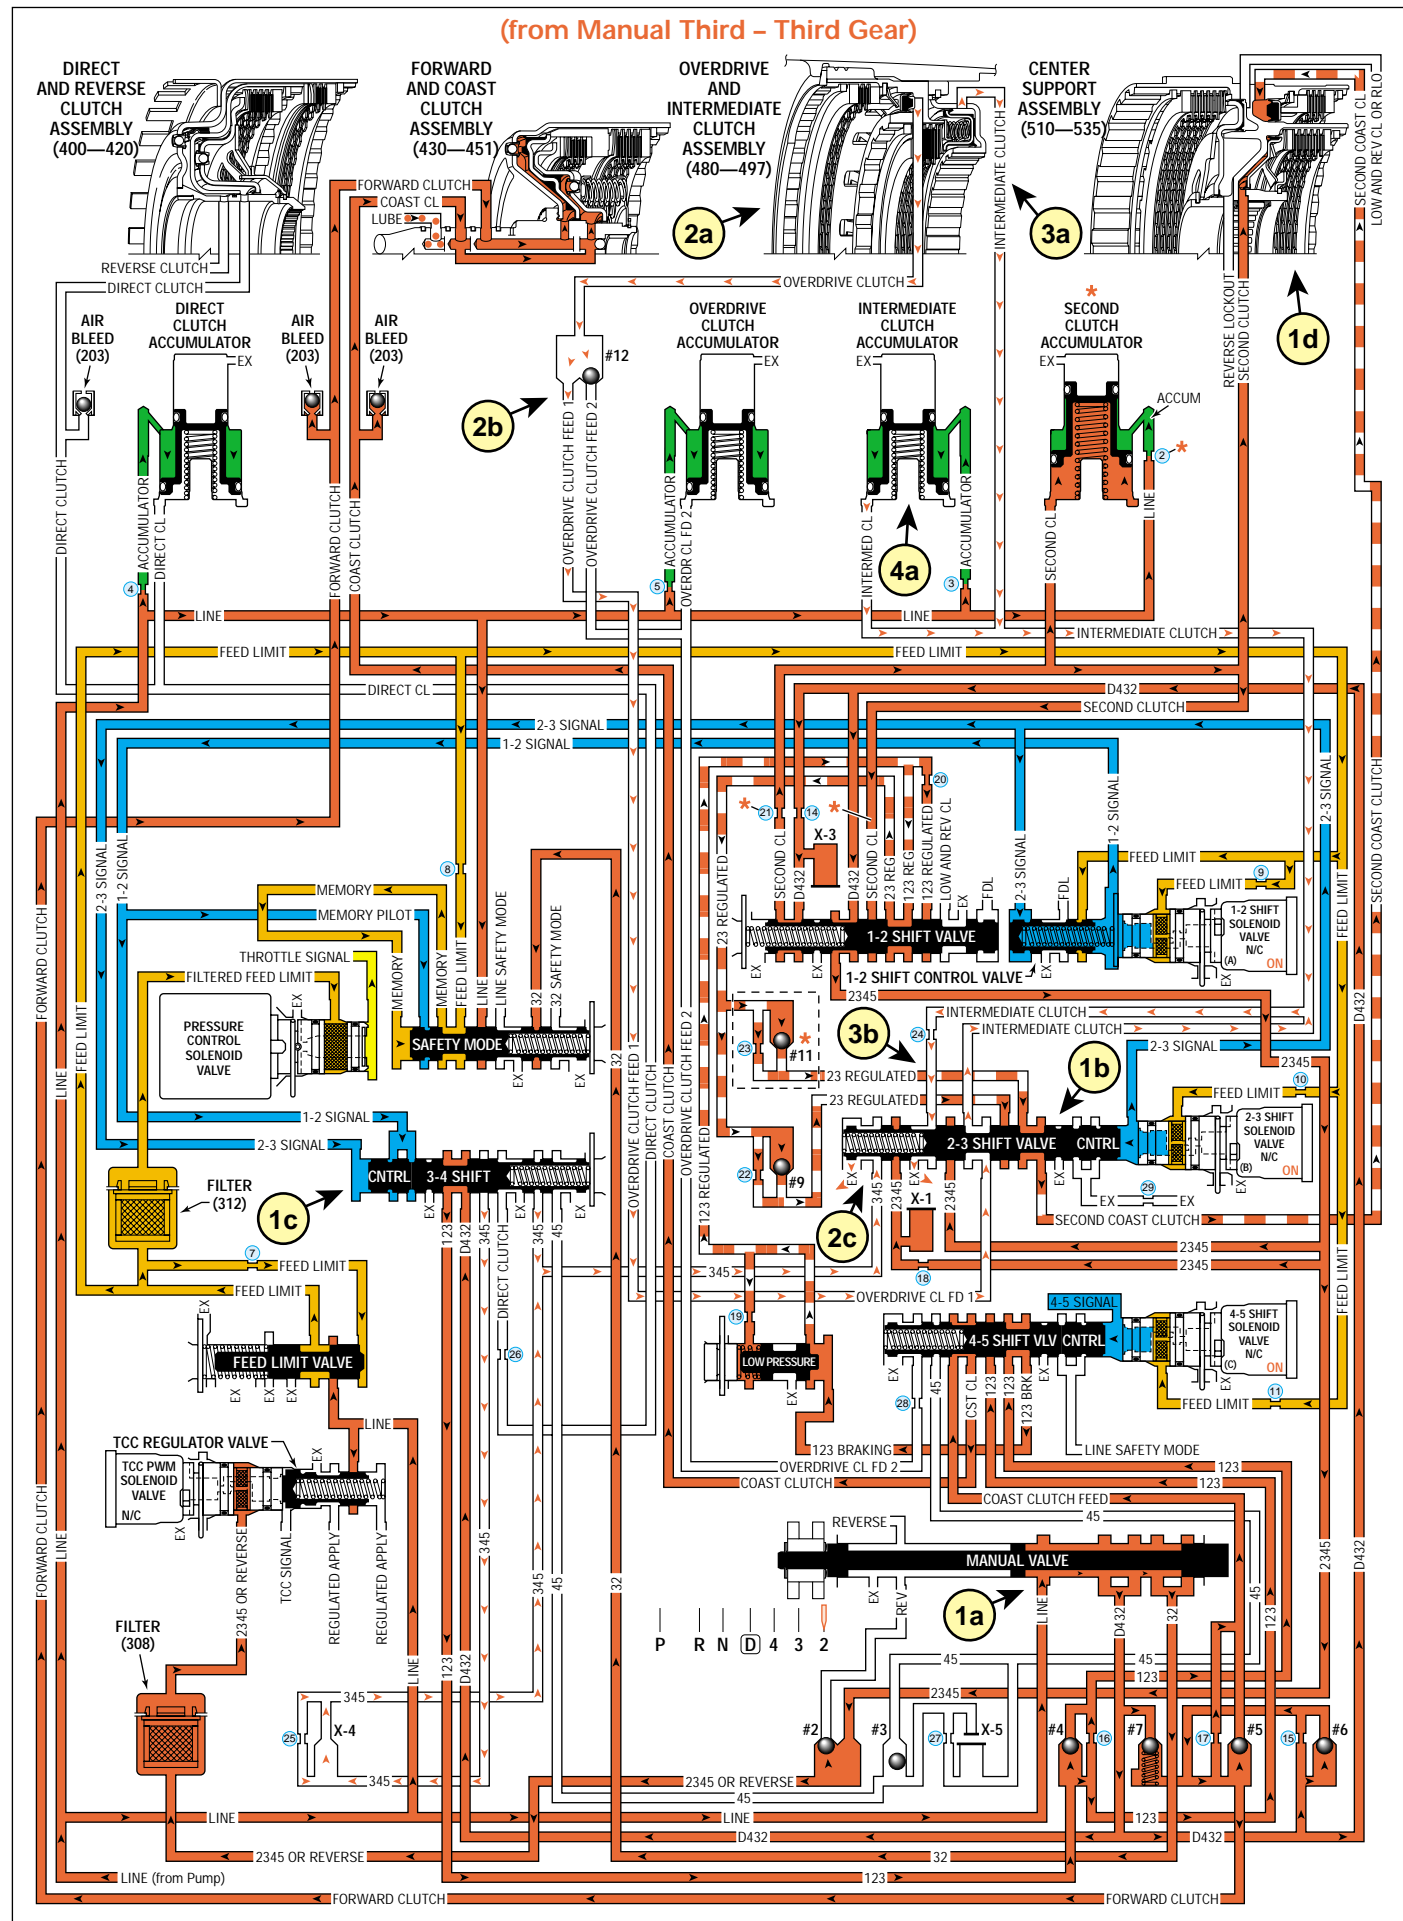

Figure 77
*Note: Figure 77 is shown in Second gear with the 2-3 SS valve energized. However, if vehicle operating conditions are such that the TCM signals a Third, Fourth or Fifth gear state, the 2-3 solenoid will be de-energized. Thus a downshift will not occur until the vehicle speed is low enough not to overrev the engine (calibratable in the TCM).*